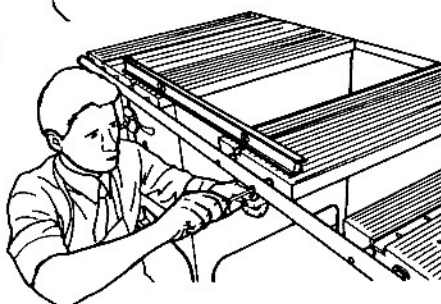
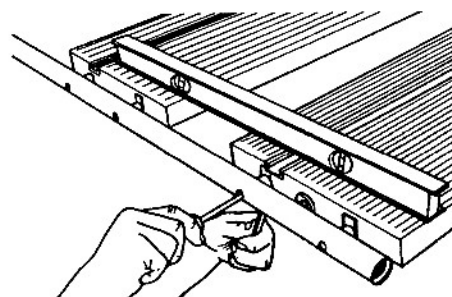

Fig. C-16
Fig. C-18
24. Place a long level or straightedge across the front edge of both the main table and middle extension table, as shown in Fig. C-16. Make any adjustments necessary to the middle extension table to get it level with the main table. When it is level, securely tighten the nuts, as seen in Fig. C-18. Double check the miter slot alignment with the fence.
25. Mount the fence on the end fixed extension table, as shown in Fig. C-18. Align the fence as described in Step 21.
27. Fig. C-18 shows the level (or straightedge) across the just-aligned middle extension table and the end extension table. Repeat Step 23.